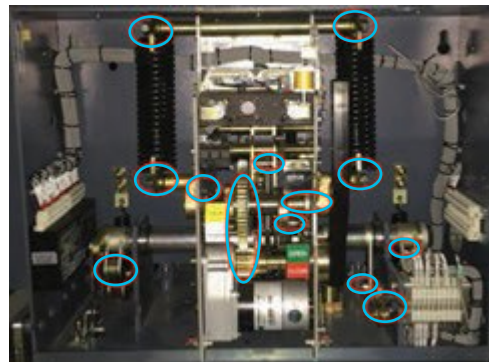

Figure 23: Areas for Recommended Lubrication
Maintenance after 2000 cycles includes inspection, cleaning and lubrication of circuit breaker mechanism, accessed by removing the front cover. Apply lubrication to all the moving parts and gears in the circuit breaker mechanism. See areas indicated by red circles in Figure 23.
- Check the rubbing and sliding surfaces inside the mechanism, lubricant shall be applied to the moving and friction areas prior to installation (See Figure 23).